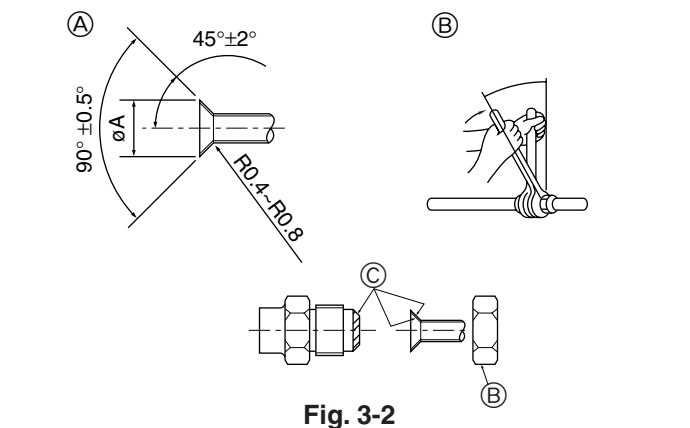

Fig. 3-2
- (A) Drain pipe
- (B) Ceiling
- (C) Grille
- (D) Refrigerant pipe (liquid)
- (E) Refrigerant pipe (gas)
- (F) Water supply inlet
- (G) Main unit
3.2. Connecting pipes (Fig. 3-2)